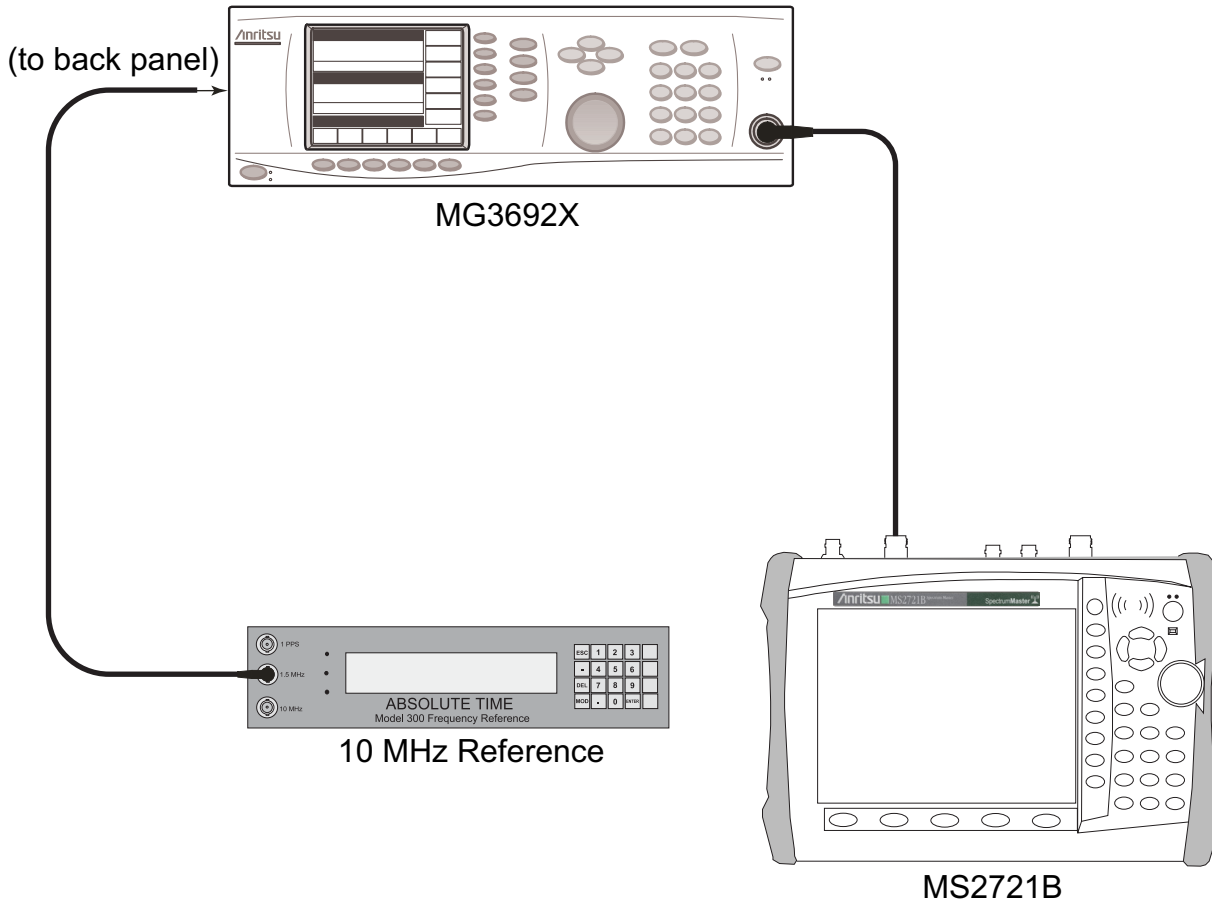

Figure 2-1. Spectrum Analyzer Frequency Accuracy Test Setup
1. Connect the external 10 MHz Reference to the Anritsu MG3692x Synthesized Signal Generator as shown in Figure 2-1.
11. Press the **Shift** key and then press the **Trace (5)** key.